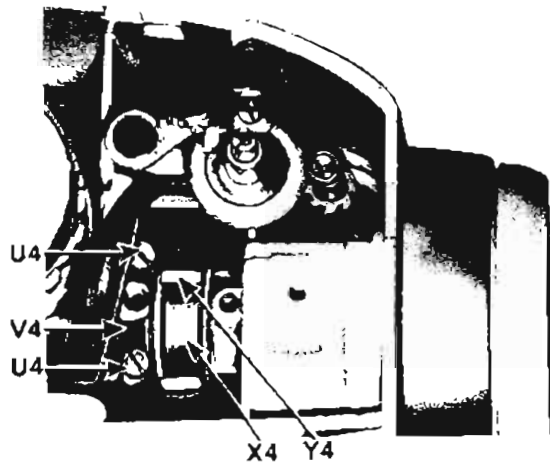

Fig. 44. Feed Lifting Rock Shaft Connecting Rod and Feed Forked Connection on Arm Shaft
3. Remove two cap screws U4, Fig. 44 and remove connecting rod V4.
1. Insert connecting rod W4 into upright arm through bottom of machine so that it fits around bottom half of gear hub on eccentric X4, Fig. 44.
1. Insert feed forked connection Y4 into upright arm through bottom of machine so that its fork fits around eccentric X4, as shown in Fig. 44.